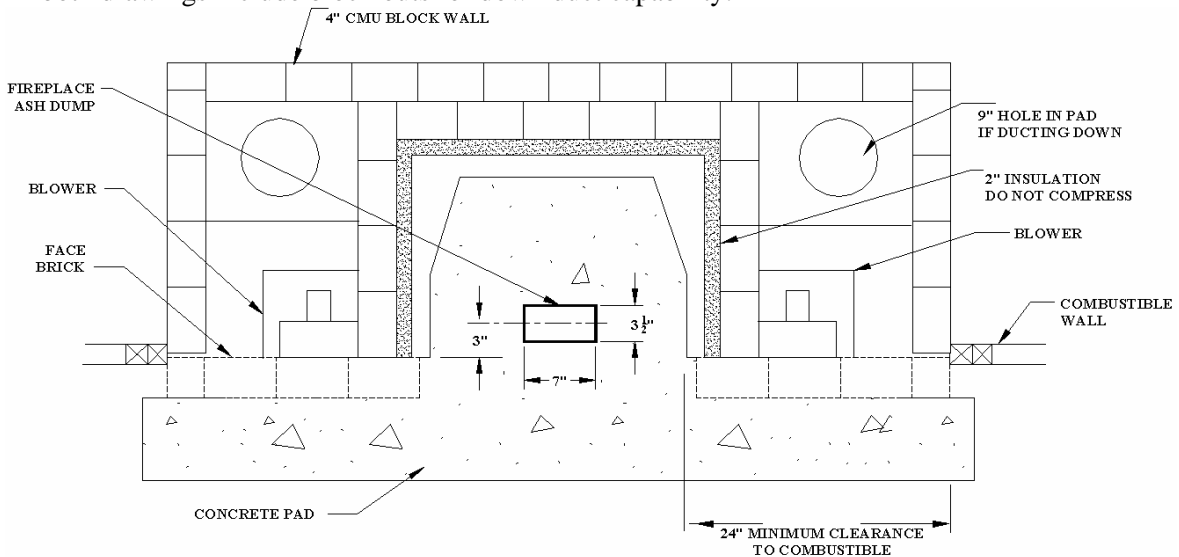
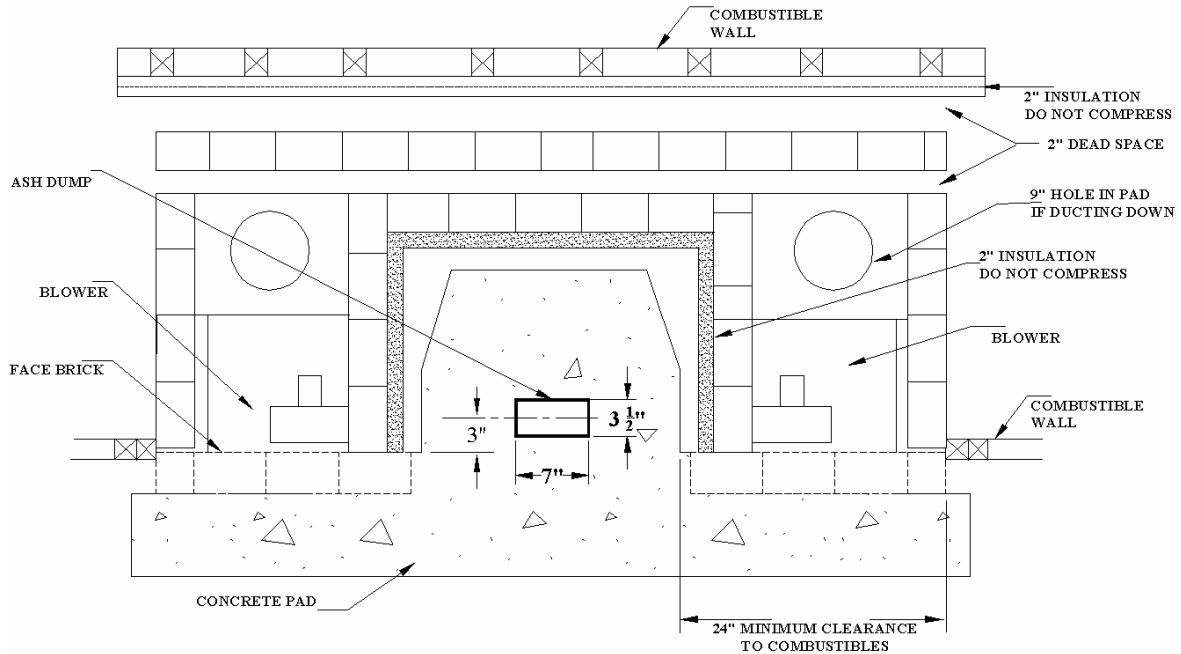

FIGURE 3: OUTSIDE WALL PAD INSTALLATION
FIGURE 4: INSIDE WALL PAD INSTALLATION
Determine whether the fireplace is to be installed on an outside wall or an inside wall. The clearances for an inside wall installation differ from an outside wall installation. The type of wall installation will impact the size of the concrete pad and hearth extension to be poured. Ensure conformance to all local building codes. Void areas are often provided in the base to form an air passage for external combustion air (recommended), or an opening for an ash pit or for both. Any nonessential void areas below the hearth should be filled to avoid unwanted air leakage into the furnace. Immediately above the foundation or foundation walls, pouring a concrete pad and creating the required hearth extension will create support for the fireplace furnace and allow an interface to the floor joists. Corbelling may be used to support the hearth extension, but a poured concrete slab, that also supports the fireplace furnace, usually is used to create a hearth extension. Forming the concrete pad requires “block outs” for external combustion air dampers (recommended.) Forming the concrete pad requires an interface with the ash dump provided in the Smart Fireplace Furnace. The concrete pad ash dump block out should be larger than the opening provided for the ash dump in the bottom of the fireplace furnace floor. If a Smart Fireplace Furnace is to be ducted down to a lower level, then include block outs in the concrete pad for the hot air ducting. Refer to FIGURE 3 for a typical outside wall fireplace furnace installation and refer to FIGURE 4 for a typical inside wall fireplace furnace installation. Note that both drawings include block outs for down duct capability.
1. If installing a fireplace furnace on an inside wall, refer to FIGURE 4. An inside wall concrete pad must be six inches deeper than FIGURE 3 shows to allow for additional air space required for inside wall installation.
2. Overall concrete pad and hearth extension sizes can be determined by referring to FIGURE 3. Remember that a pad should contain rebar or steel mesh for stress reduction and improved strength.